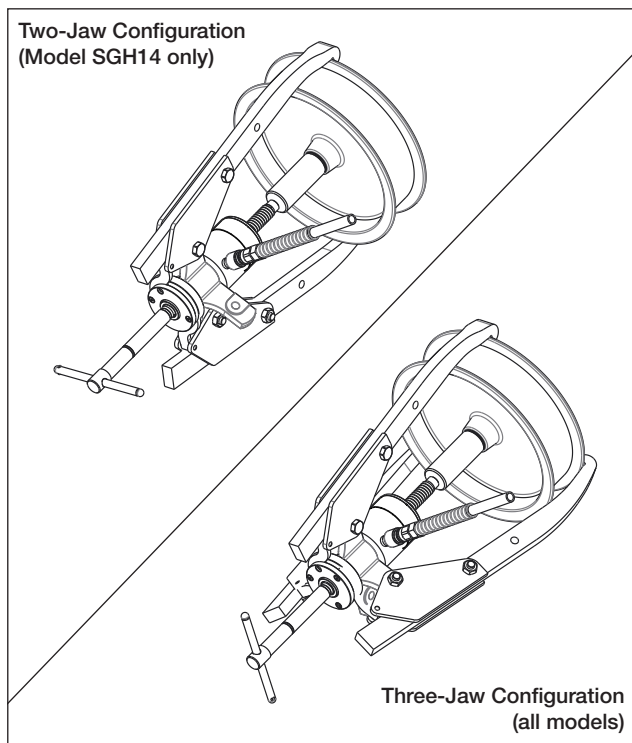

Figure 9, Pulley Removal (typical)
- Install the puller on the pulley or other part to be removed. See Figure 9 for examples.